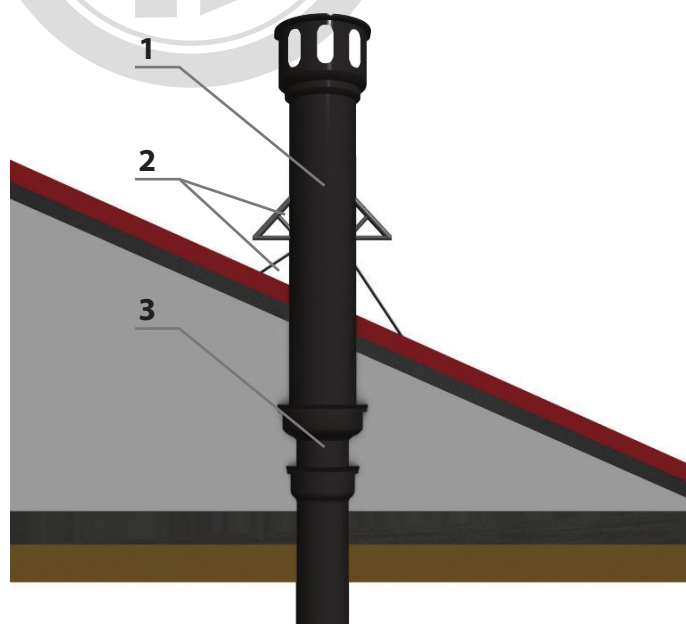

Fig.1 Installation of a ventilated pipe - example
- The top section of the pipeline above the elements of the highest level should be led above the roof and ended with a ventilated pipe (**Fig.1**).